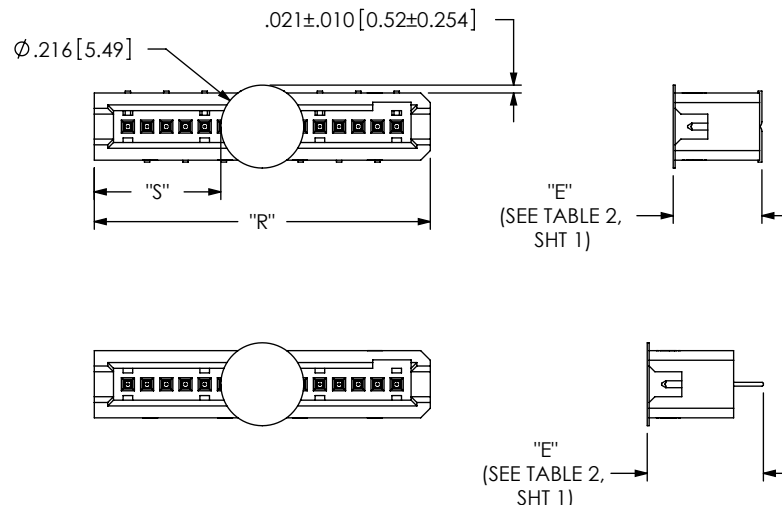

FIG 3
- K: POLYIMIDE FILM (SEE FIG 3, SHEET 2) (USE K-DOT-.217-.313-.005)